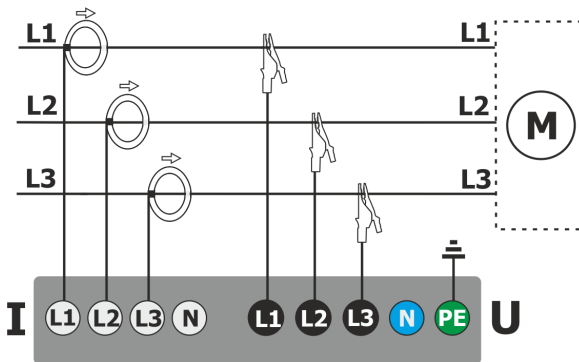
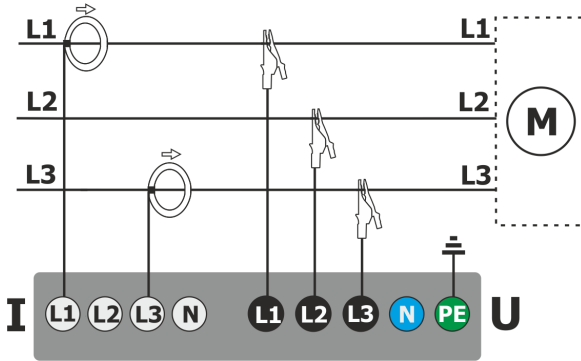

Fig. 61. Wiring diagram – 3-phase 3-wire, 3-phase open delta systems.
Fig. 62. Wiring diagram – 3-phase 3-wire Aron, 2-element systems (current measurement using Aron method).
- 3-phase 3-wire, 3-phase 3-wire Aron / 2-element, 3-phase open delta (Fig. 61, Fig. 62).
In three-wire AC systems, current may be measured by the Aron method (Fig. 62), which uses only two probes that measure linear currents I_{L1} and I_{L3} . I_{L2} current is then calculated using the following formula: